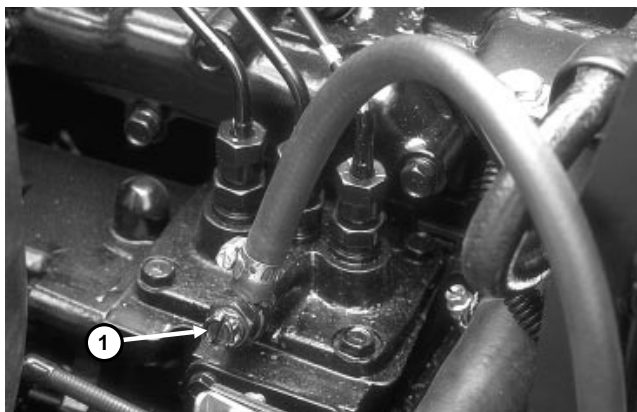

Figure 12
4. Open the air vent screw on the fuel injection pump (Fig. 12).